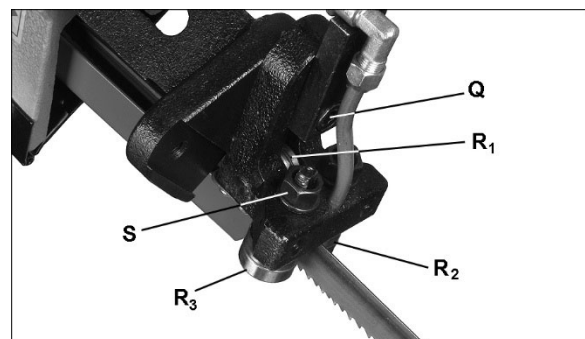

Figure 8-9: blade guide setting
2. Loosen bolt (Q, Figure 8-9) and adjust assembly so that rear bearing (R_1) is approximately 0.002 to 0.003 inches from back of blade. Also, inside bearing (R_2) should very lightly contact blade. Tighten bolt (Q).
3. Inside bearing (R_2) is fixed. Outside bearing (R_3) rotates on an eccentric shaft. Rotate nut (S) with 14mm wrench to adjust eccentric bearing to a clearance of 0.001 inches from blade.
3. If there is a gap, loosen bolt (Q, Figure 8-9) on each blade guide assembly and rotate blade guide assembly until gap is eliminated between square and ruler.
4. Retighten bolts (Q, Figure 8-9).